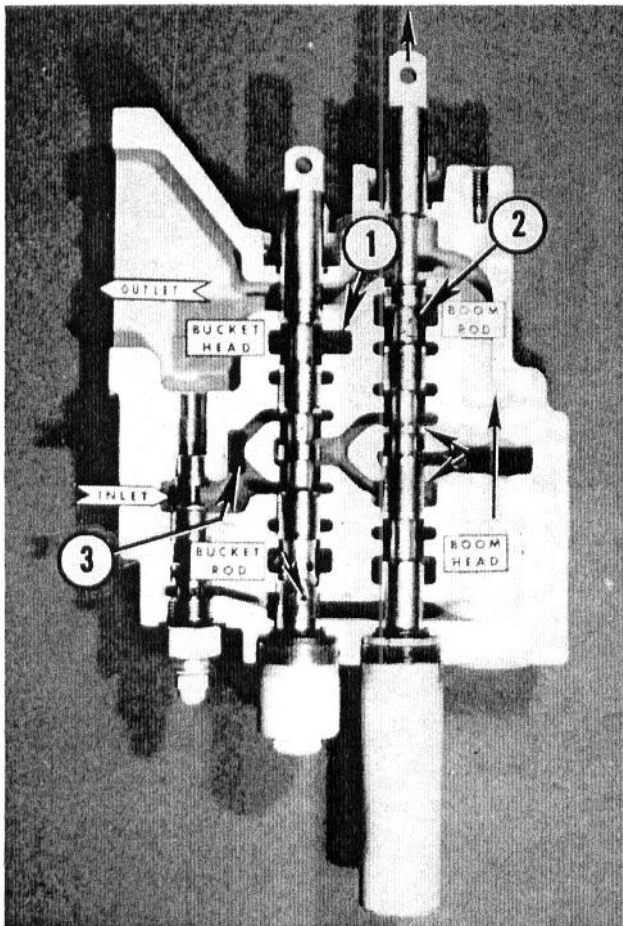

Fig. 14 — Boom Spool In "Self-Level" Position — Spool "Out"
e. Boom spool "out" to "self-level" position (MF 34A and MF 300A Loaders) ... see Figs. 14, 15, and 16. "Open center" passage of casting blocked, inlet oil flows to the load check common passage and moves poppet to pressurize head-end of lift cylinders. Oil returning from rod-end of lift cylinders cannot get past the boom spool "load" to the return passage of valve casting. This return oil enters a common passage to a one-way check plunger ... opens this plunger and goes to the head-end port of the bracket cylinder (causing bucket to roll forward, or "level"). Oil pressure in bucket head-end port also flows through a drilling near top of bucket spool ... as pressure builds-